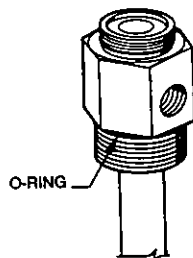

FIGURE 1
5. Remove each tank adaptor/tube assembly. Remove O-ring and inspect for damage. Clean and coat O-ring with a good grade of extreme temperature grease and reinstall into adaptor groove. See Figure 1.